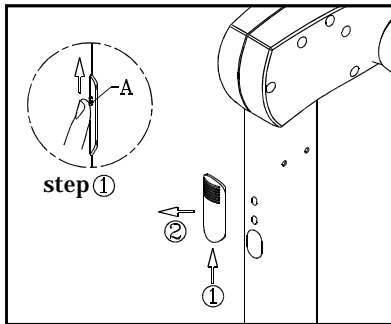

Fig.12
1. (a) Follow the steps 1 and 2 to remove the access cap. (Point A is where to press in step 1) (see fig.12)